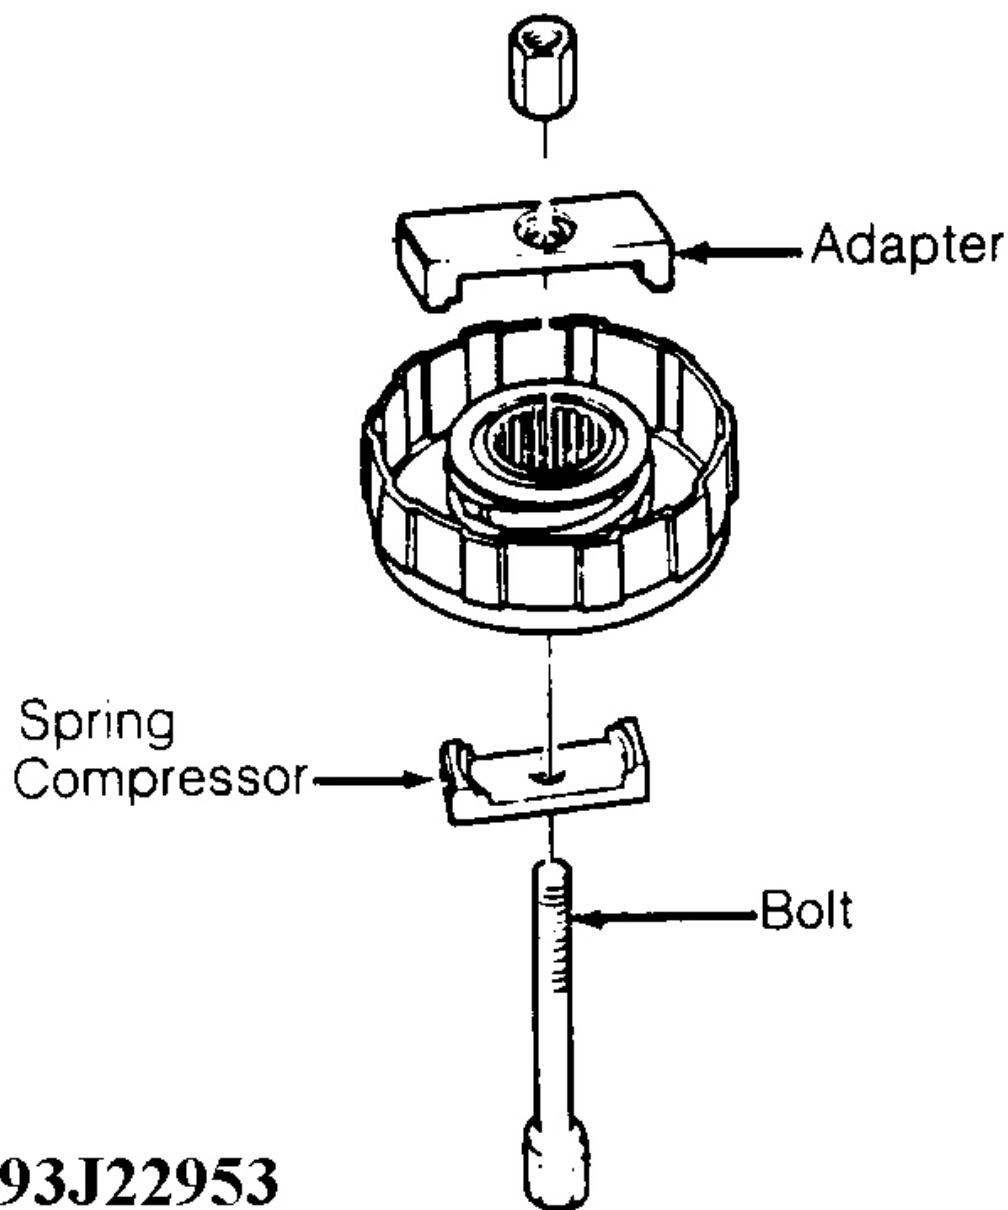

Fig. 29: Compressing Return Spring (1st-Hold Clutch Shown; Others Are similar)
2. On all clutches, use Spring Compressor (07HAE-PL50100), Adapter (07LAE-PX40100) and Bolt (07GAE-PG40200) to compress return spring. See **Fig. 29** .